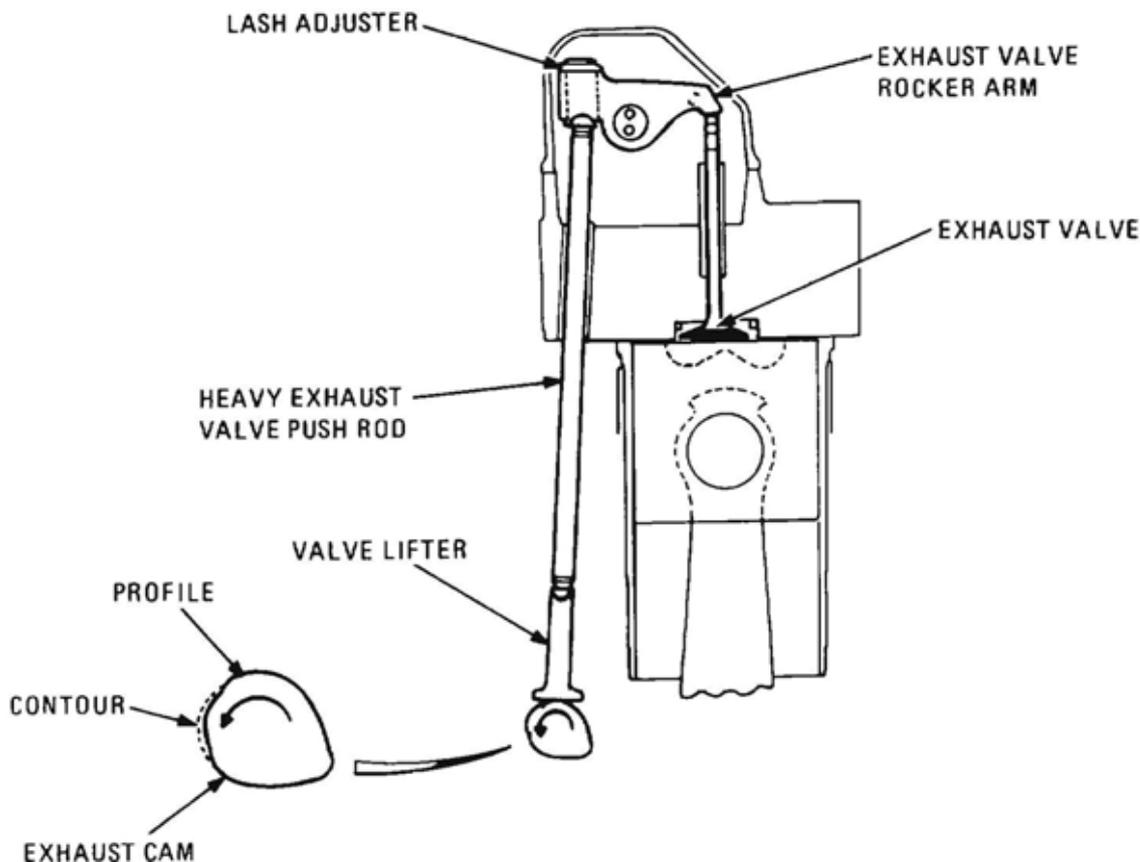

Figure 40 Dynatard Engine Brake Valve Mechanism
58. To operate the Dynatard engine brake system, the exhaust valve must assume two different timings: one for normal engine operation where the exhaust valve opens during the exhaust stroke only and one for Dynatard operation where the exhaust valve opens on both the compression and exhaust strokes. To accomplish this, a special contour is ground into a portion of the exhaust cam lobe base circle to provide a small lift profile (Figure 40). This lift profile is timed to open the exhaust valve near the completion of the compression stroke.